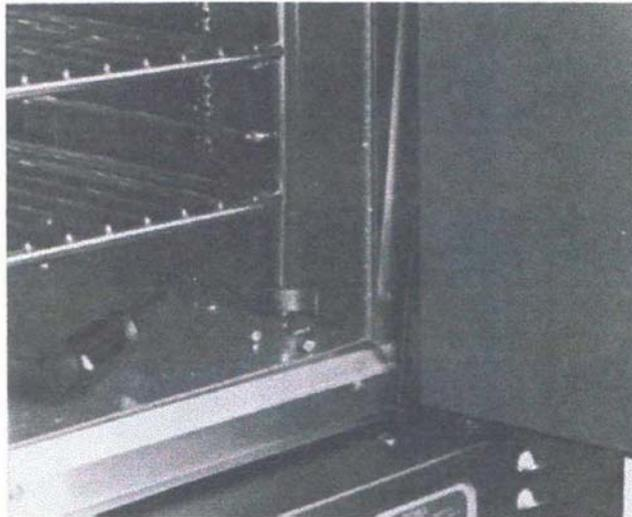

Figure 6-4. Perimeter Door Gasket Bottom Trim
2. Top and bottom trim (Figure 6-4) pieces are removed with gaskets.